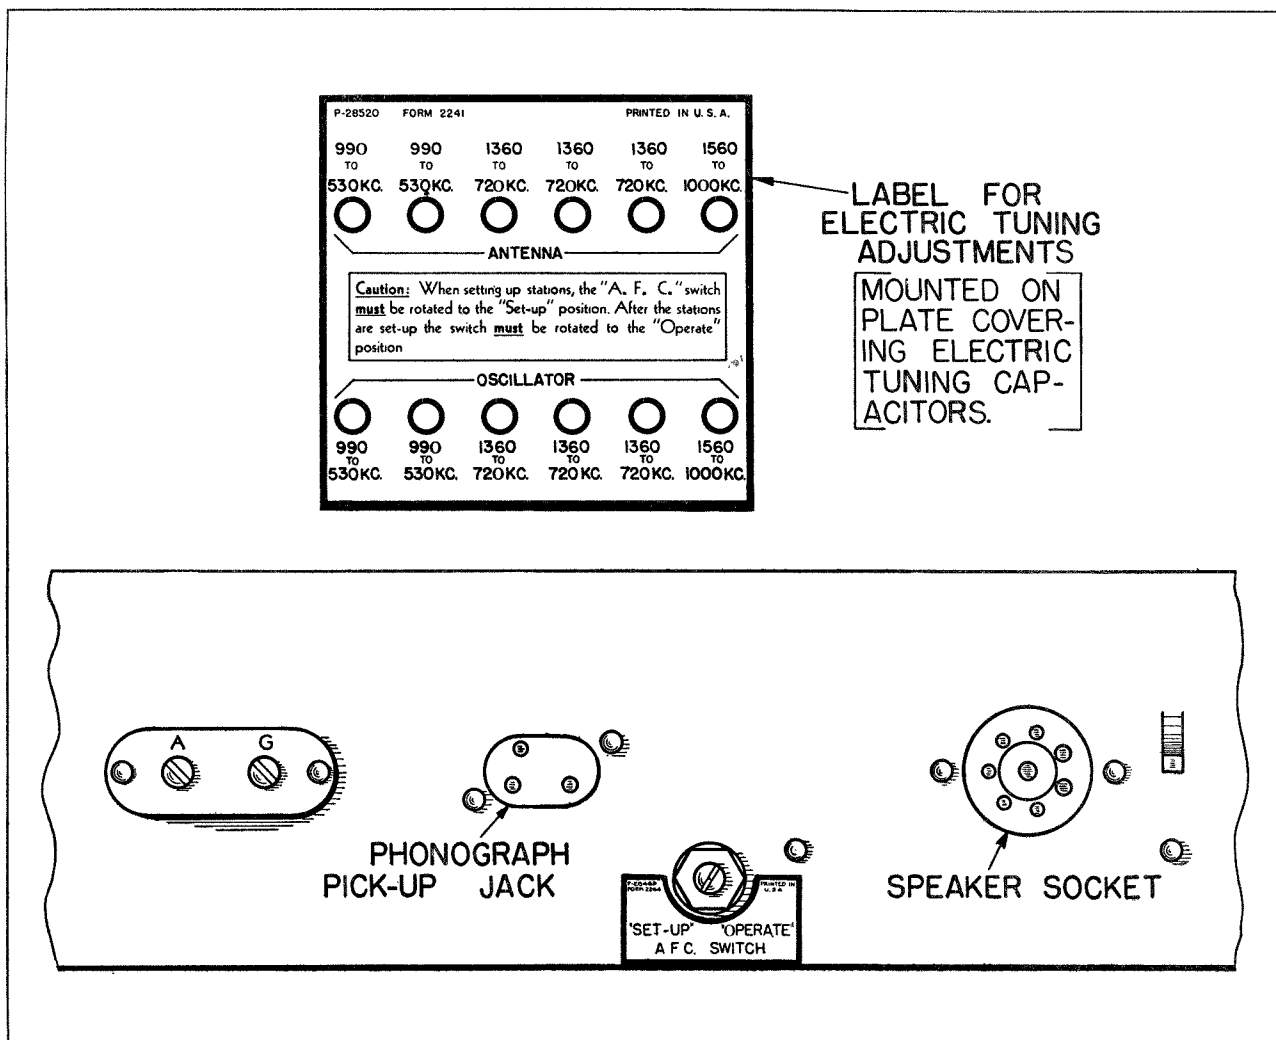

Fig. 5.
**CAUTION:** Never attempt to align the R. F. or I. F. circuits of this receiver with the Fidelity control knob set at any position other than the "Normal" position and the "Manual-Electric" control knob set at the "Electric" position unless specifically directed in the following paragraphs. Also, do not make any aligning adjustments of the R. F., I. F., or "Discriminator" circuits with the A. F. C. switch (which is located on rear of the chassis base) set at the "set-up" position. See Fig. 5.
A socket having three contacts is provided on the rear of the chassis base of these receivers. See Fig. 5. To equip these receivers for phonograph operation, it will be necessary to purchase and install in the receiver a Stromberg-Carlson, P-27946 Switch Assembly. Part of this assembly has to be wired to the above mentioned three prong socket. Complete instructions on how to install and operate this switch are furnished with each switch.
**CAUTION:** Each button adjustment for electric tuning has assigned frequency limits. These limits are designated for each adjustment on the rear plate which covers the tuning adjustments and are visible when looking at the rear of the receiver. See Fig. 5. The six stations should be selected so that the frequency of each station will be within the frequency limits assigned to one of the buttons.
8. **IMPORTANT:** By the aid of a screwdriver, rotate the slotted shaft of the "A. F. C." switch, which is located on the rear of the chassis base, so that the slotted shaft points in the direction of the word, "Set-up" (maximum clockwise rotation). See Fig. 5.
10. Push the farthest left-hand button (looking at the front of the receiver) which should be the button for the station having the highest frequency provided the frequency of the station is within the designated frequency limits of the tuning adjustments for this button. See Fig. 5. Then, looking at the rear of the receiver, rotate the screw of the oscillator tuning adjustment which is designated 1560 to 1000 kilocycles to the position where the desired station is received. In order to check whether the program being received is from the desired station, simply rotate the "Manual-Electric" control to the "Manual" position, and with the receiver tuned in "Manually" to the desired station a quick check can be made; then rotate the "Manual-Electric" control knob back to the "Electric" position. **Exact resonance with the desired station should be obtained by observing the tuning indicator.** When this adjustment has properly been made, the screw of the antenna tuning adjustment designated 1560 to 1000 kilocycles should be rotated to the position where maximum indication is again obtained on the tuning indicator tube. When these adjustments have been properly made the station having the highest frequency is correctly set-up for Electric Tuning by means of the push button.